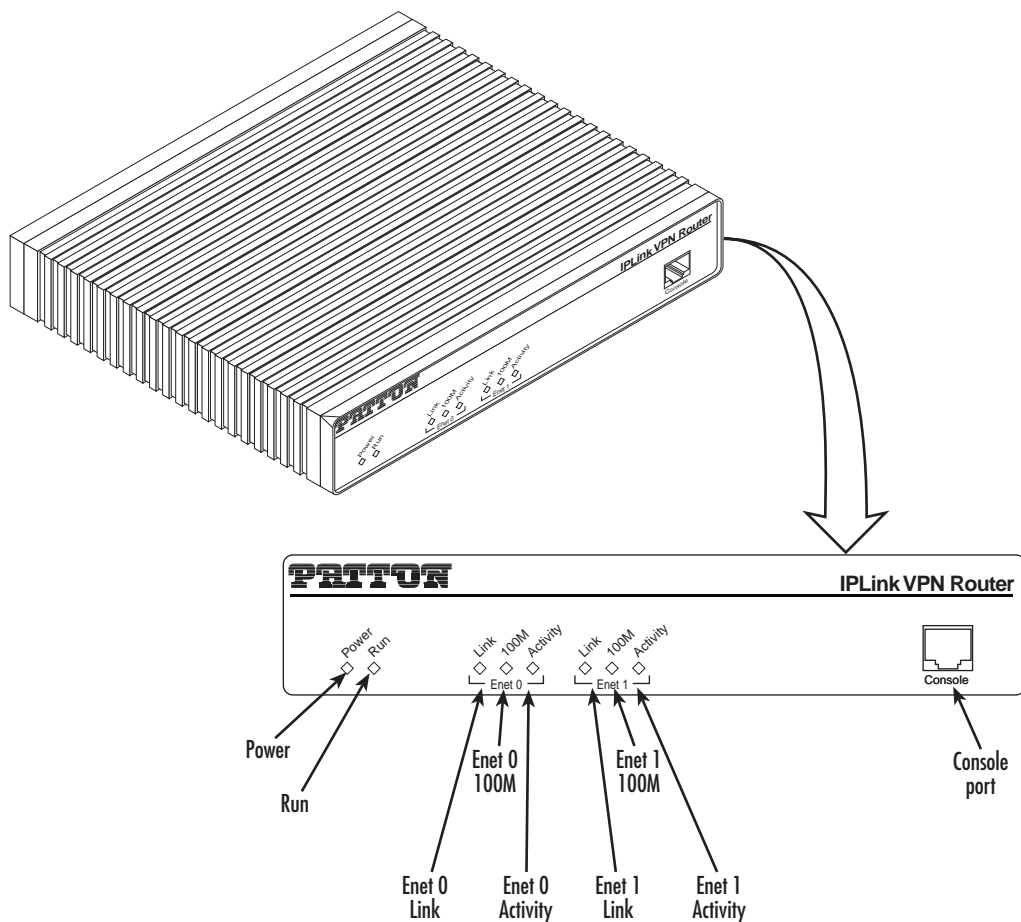

Figure 8. VPN Router front panel LEDs and Console port locations (IPLink 2835 shown)
5. Verify that the green *Power* LED is lit (see figure 8).